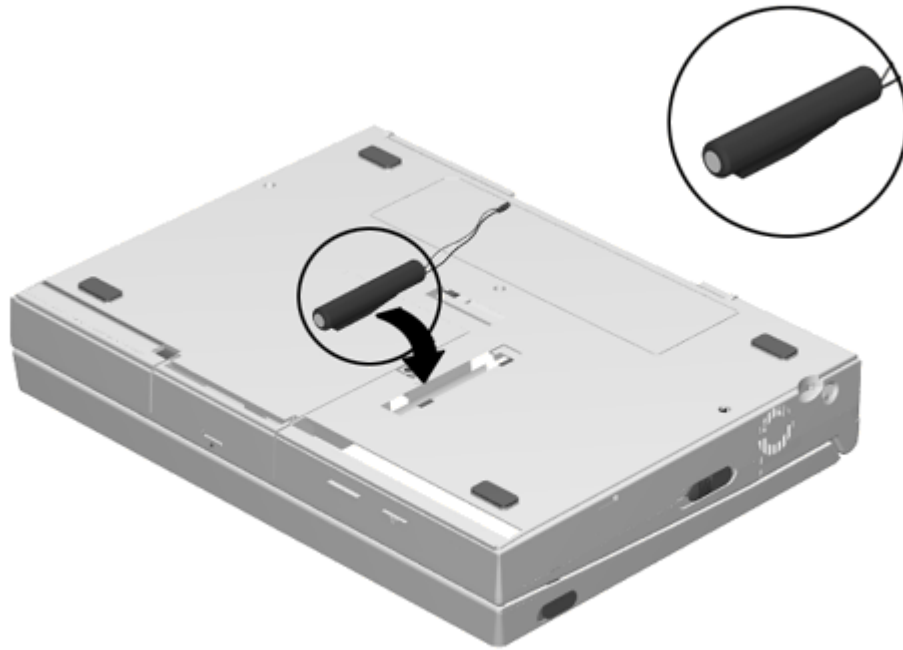

Figure 5-9. Installing the Auxiliary Battery
3. Insert the auxiliary battery into the compartment, remembering that the side of the battery that protrudes must enter the compartment first (Figure 5-9). The battery compartment door will not close if the battery is inserted improperly.